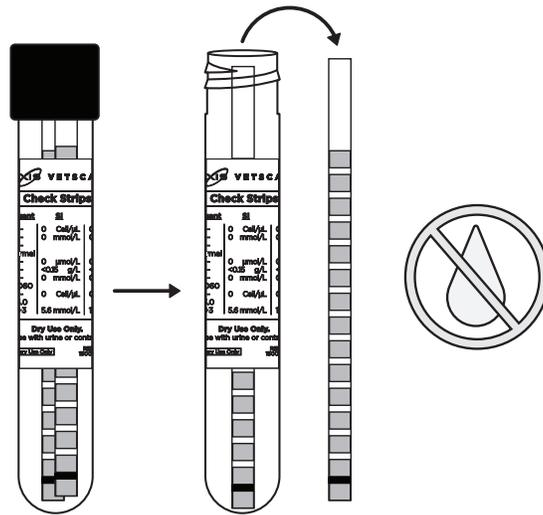

Fig. 20 Check Strip tubel and strip
1. A Check Strip is an artificial test strip that is intended to be run DRY, with no sample or liquid, in order to test the UA analyzer for proper operation. Run a Check Strip if the analyzer is being used for the first time, has not been used for more than 1 year, or is providing unexpected results. Two (2) identical Check Strips are provided with the VetScan UA analyzer kit. Only use Check Strips that are undamaged, not discolored and are not broken.
- Carefully remove a Check Strip from the tube to prevent contamination of the strip. (Fig. 20)